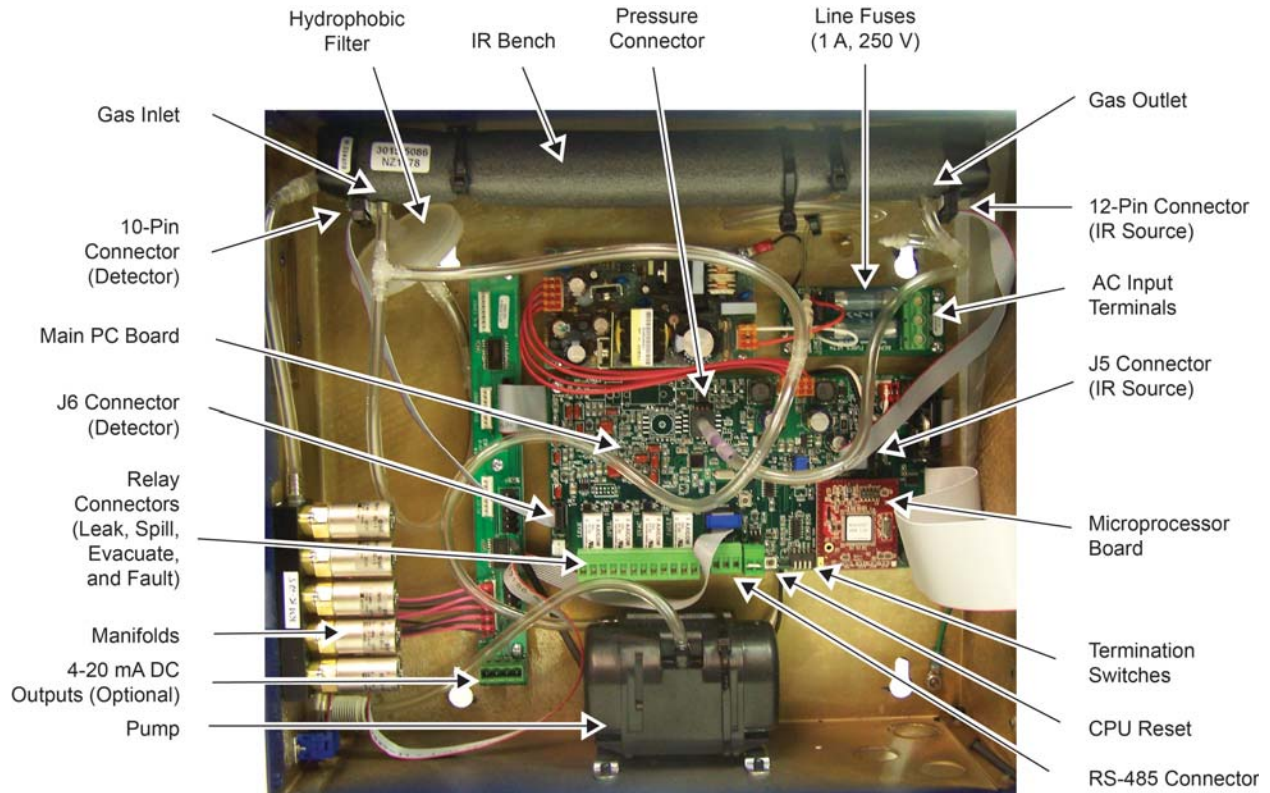

Figure 2-3. MZ Monitor Interior Components
1. Locate the RS-485 connector in the MZ (see Figure 2-3 on page 13).